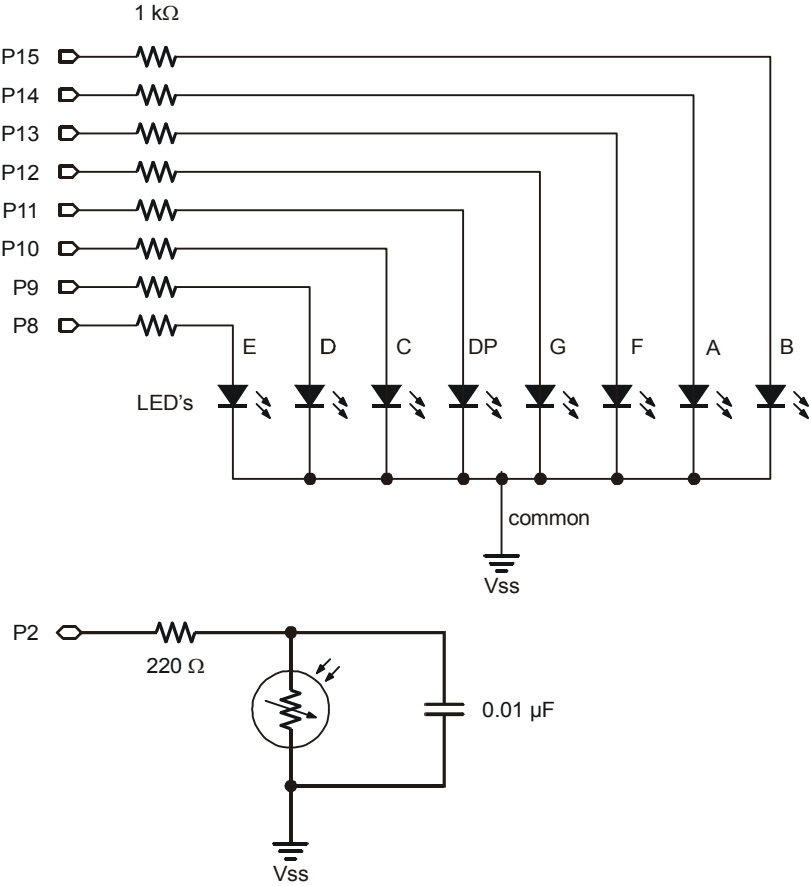

Figure 7-9
Figure 7-9 shows the 7-segment LED display and photoresistor circuit schematics that will be used to make the light meter, and Figure 7-10 shows a wiring diagram of the circuit. The photoresistor circuit is the same one you have been using in the last two activities, and the 7-segment LED display circuit is the one that was controlled by the BASIC Stamp in Chapter #6.
- ✓ Build the circuit shown in Figure 7-9 and Figure 7-10.